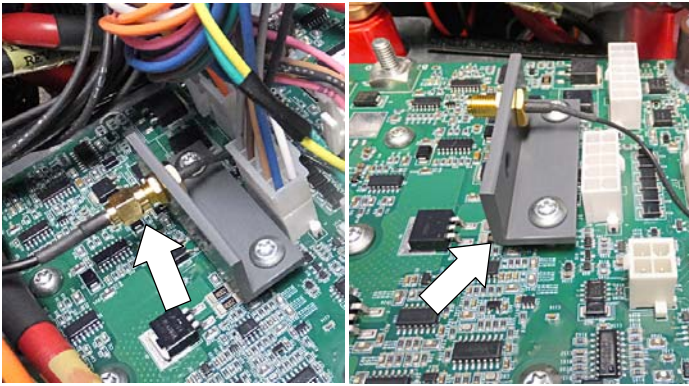

Fig. 5
- Disconnect the antenna wire and remove the antenna bracket with two spacers from defective board (Figure 5). Save bracket and spacers.